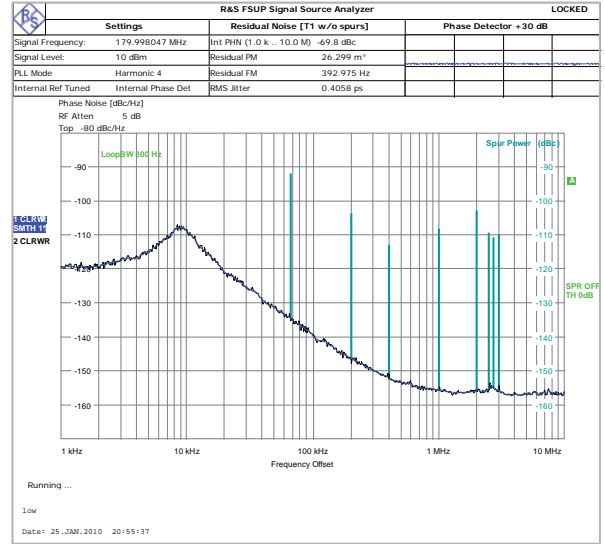

Figure 19. Spectrum Analyzer Display
8. In the software window, set the VCO center frequency (Figure 19 uses a 200 MHz VCO). Set the PFD frequency as defined in ADIsimPLL, and program the reference frequency to equal that supplied to Connector J11 (or the TCXO). See Figure 20 for the suggested setup.
9. Measure the output spectrum. Figure 19 shows a 200 MHz output.